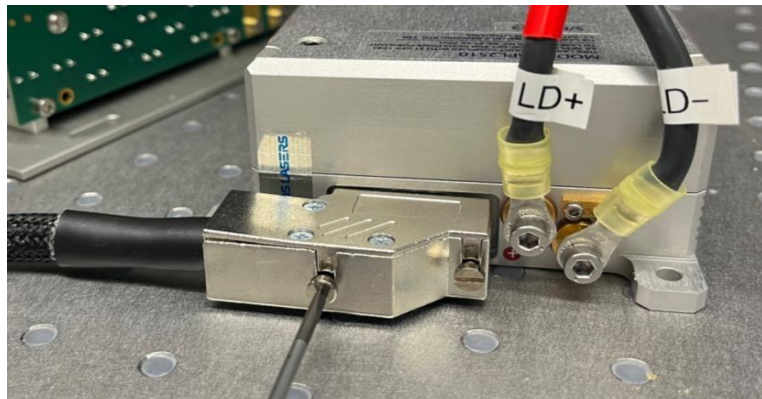

Fig. 11. Rear panel of laser head.
3. Connect Laser Control cable to Laser Head and tighten the screws (**Fig. 11**).